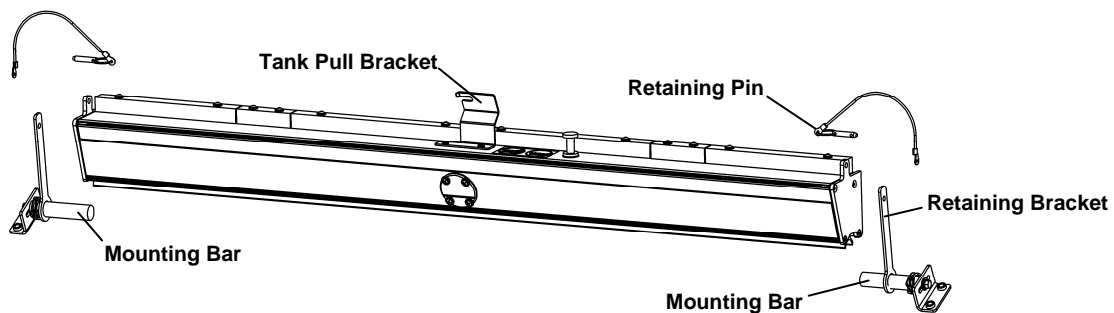

Figure 4-4
2. Remove the retaining pins from the retaining brackets at each end of the oil tank (see Figure 4-4).